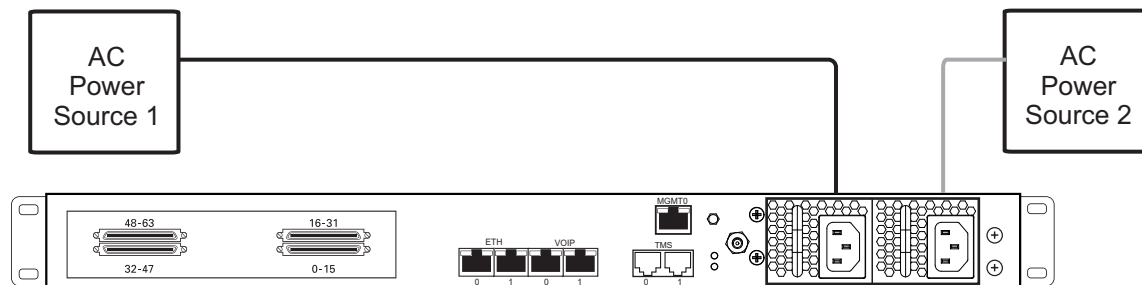

Figure 2.8 3200 Series Gateway AC Power Connection
1. Connect an AC power cable between the AC connector of the 3200 series gateway and an AC supply. See figure 2.8 on page 23.